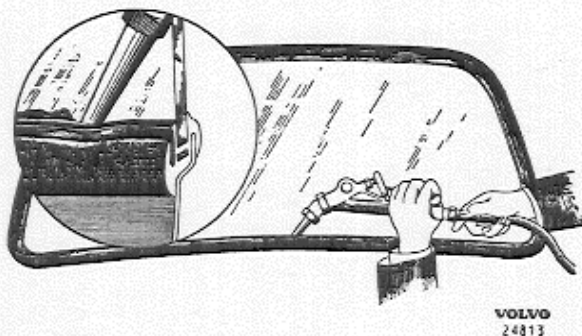

Fig. 46. Pressing in sealing agent
5. Press in the sealing compound under the outer flanges of the rubber weatherstrip. See Fig. 46.